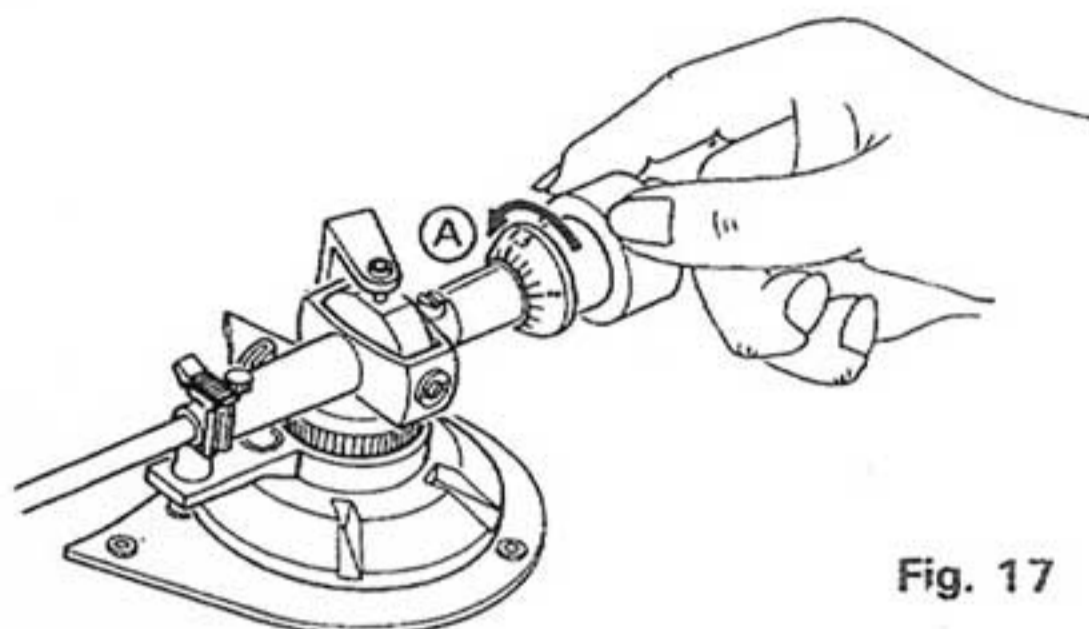

Fig. 17
6. Turn the counterweight in the direction of (A) (Fig. 17) to the tracking force value of the cartridge to be used.